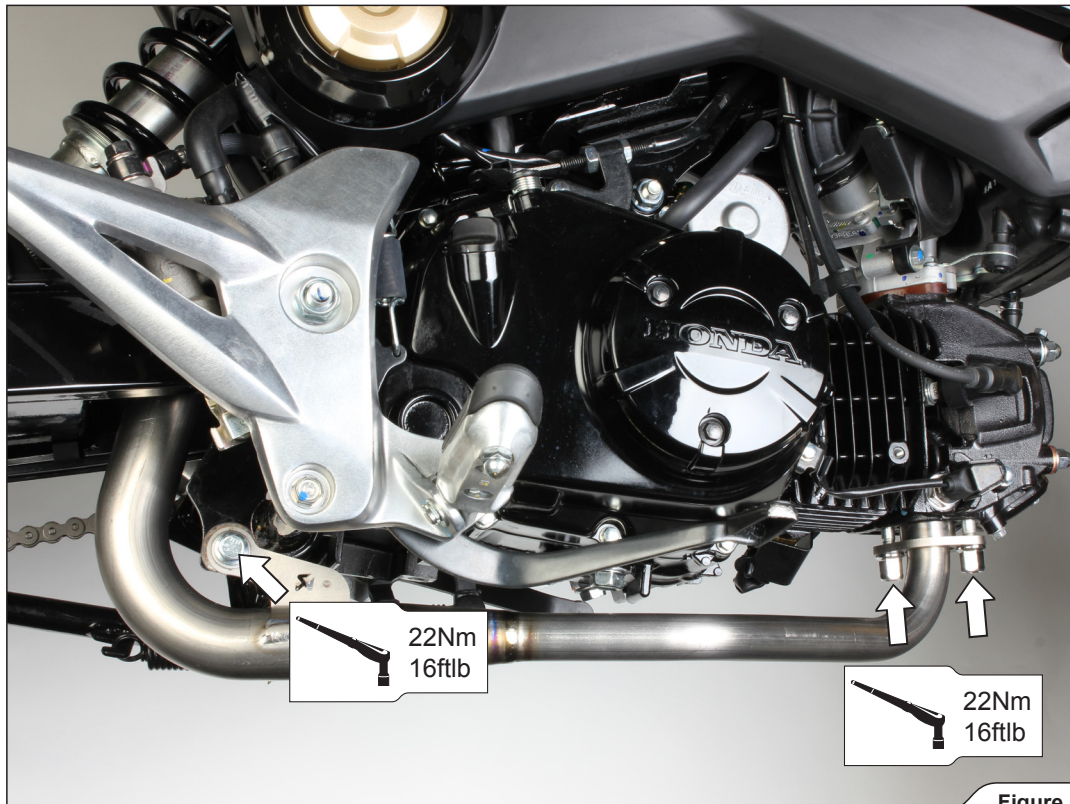

Figure 5
2. Align the header pipe and tighten the marked bolt and nuts, to the specified torque (**Figure 5**).